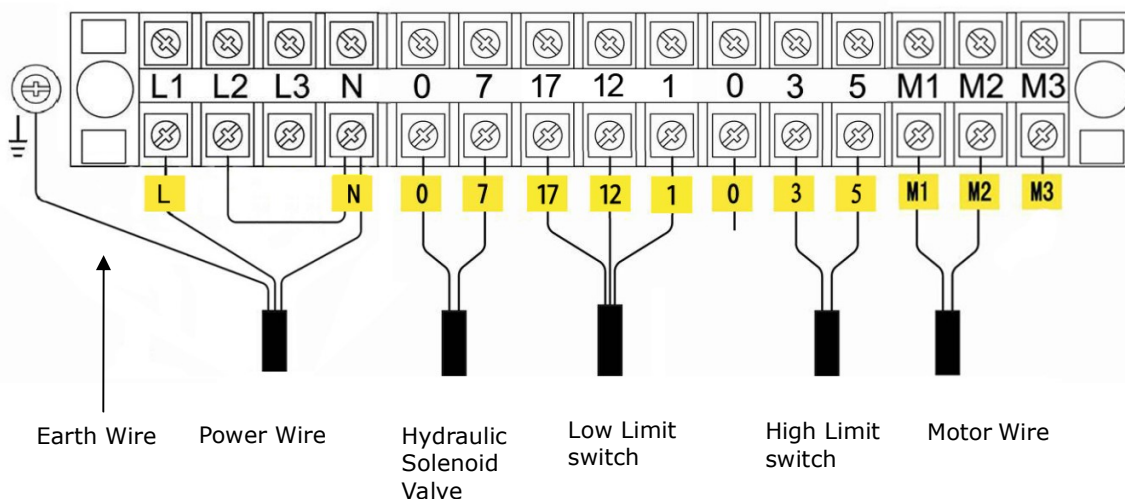

Fig. 28
2.1 Connect the power wire and limit switch wire according to the wiring diagram (See Fig. 28).